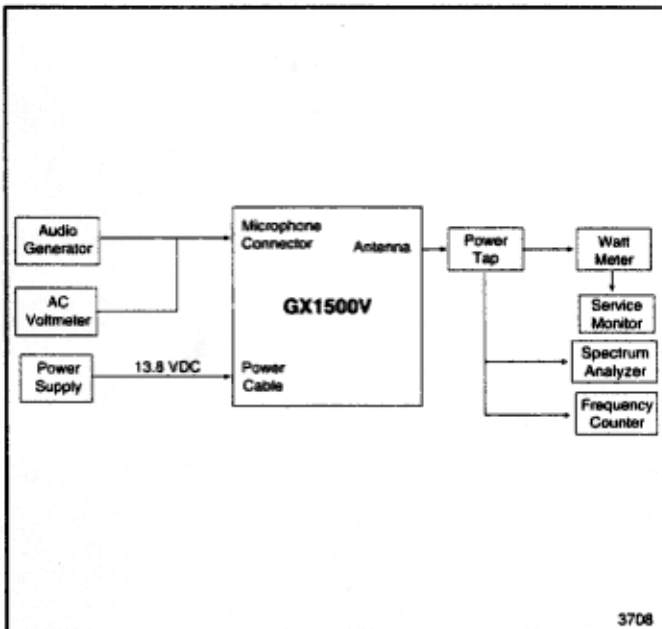

Figure 4-4. Transmitter Test Setup
Connect the test equipment as illustrated in Figure 4-4. If customer ordered frequencies have been programmed, use those frequencies for testing and perform the following tests on the center frequency except where noted. Otherwise, use the factory programmed frequencies in Table 4-3 for GX1500VAA and Table 4-4 for GX1500VAB.
1. Connect an audio generator to the Mic jack using the setup shown in Figure 4-4. Adjust the audio signal generator to an output of a 1 kHz sinewave. Set the GX1500V to the transmit mode.
- Set up the test equipment as shown in Figure 4-4.